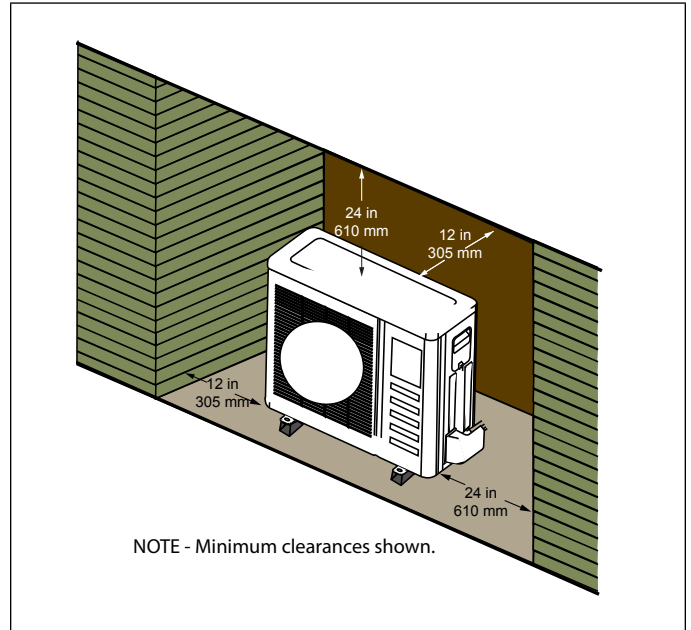

Figure 12. Unit installed in Alcove
- Outdoor unit can be installed in an alcove or under a roof overhang as illustrated in "Figure 12. Unit installed in Alcove".